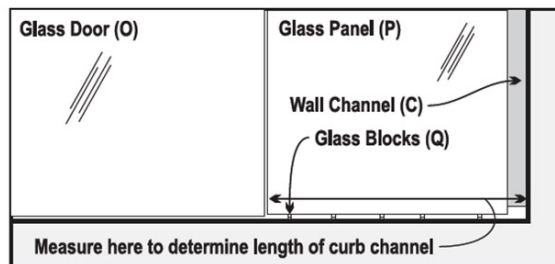

FIGURE 18
With the Glass Panel (P) in place, measure from wall to edge of panel glass. This measurement will be the length you need to cut your Curb Channel (D). (See Figure 18)